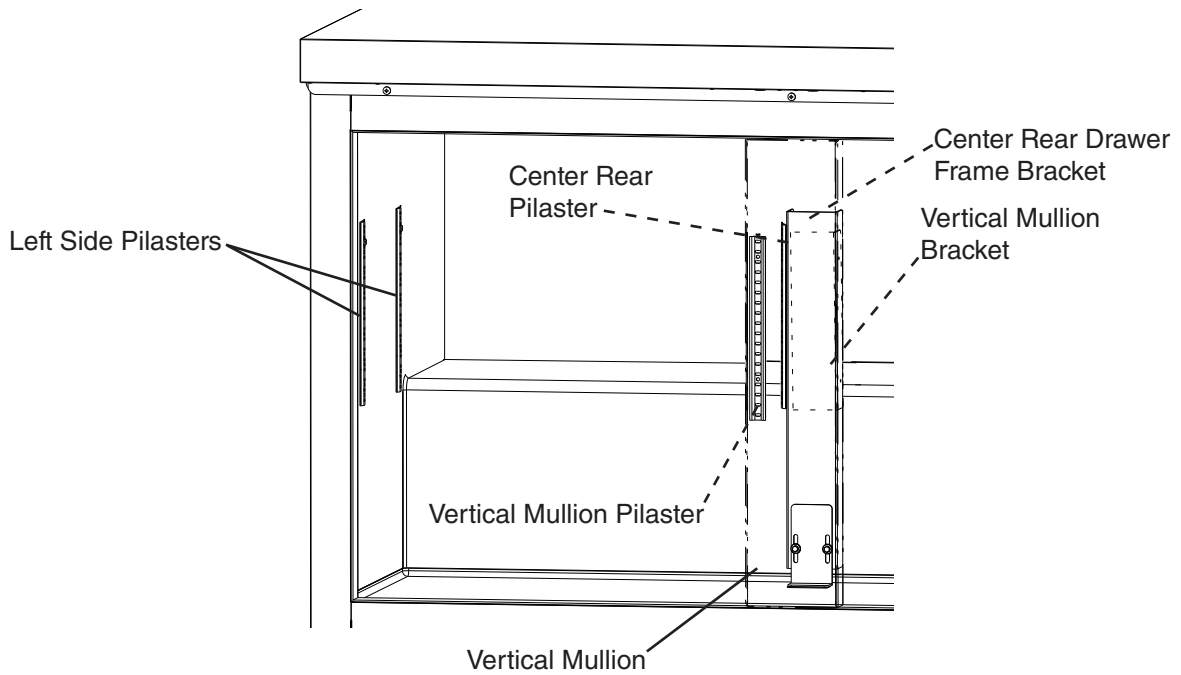

Fig. 26
- 8) Place and secure the pilasters and shelf support clips in their new location. See Fig. 26. Replace the shelf.